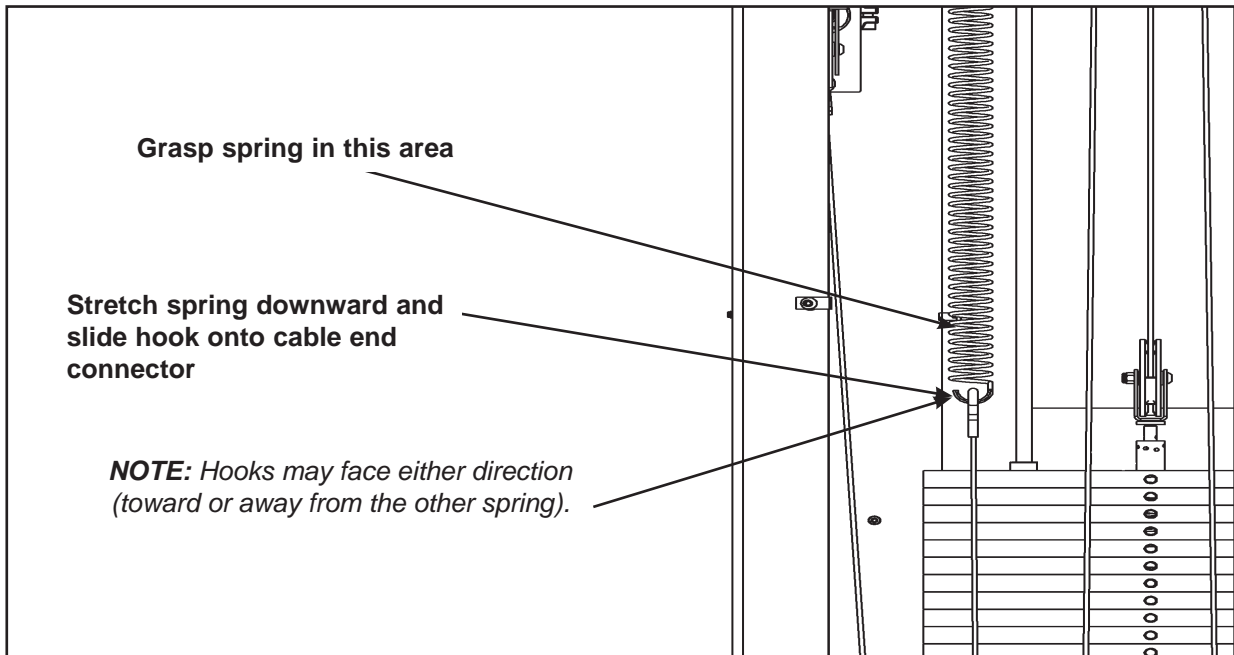

Figure 10
- 8. **Reconnect lower end of each spring** (refer to steps 8A - 8D and Figure 10).